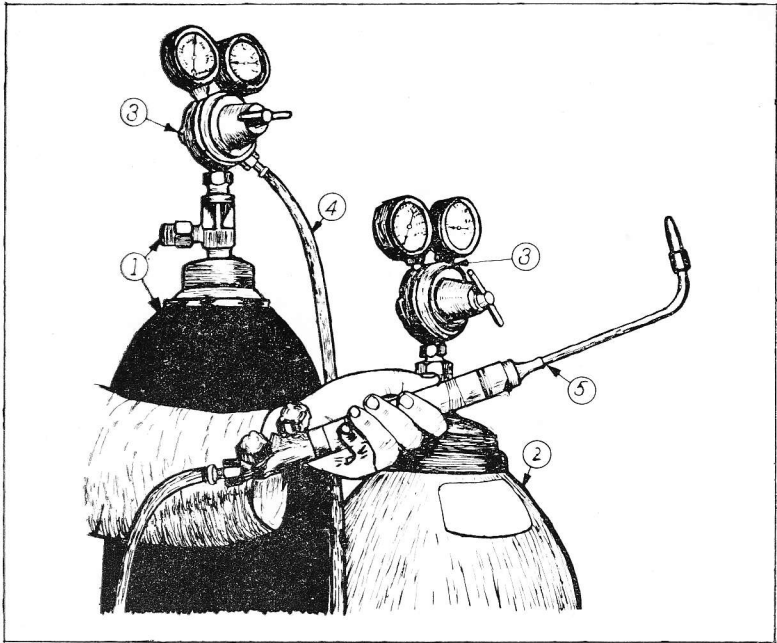

Fig. 2.—1-5 Oxy-Acetylene Apparatus.
- Fig. 2/1 A cylinder of oxygen to which is permanently fixed a stop valve.
- Fig. 2/2 A cylinder of acetylene to which is permanently fixed a stop valve.
- Fig. 2/3 Regulators to control the supply of gases from each of the cylinders, oxygen and acetylene.
- Fig. 2/4 Flexible hose and connections between regulators and torch.
- Fig. 2/5 Cutting or welding torch.